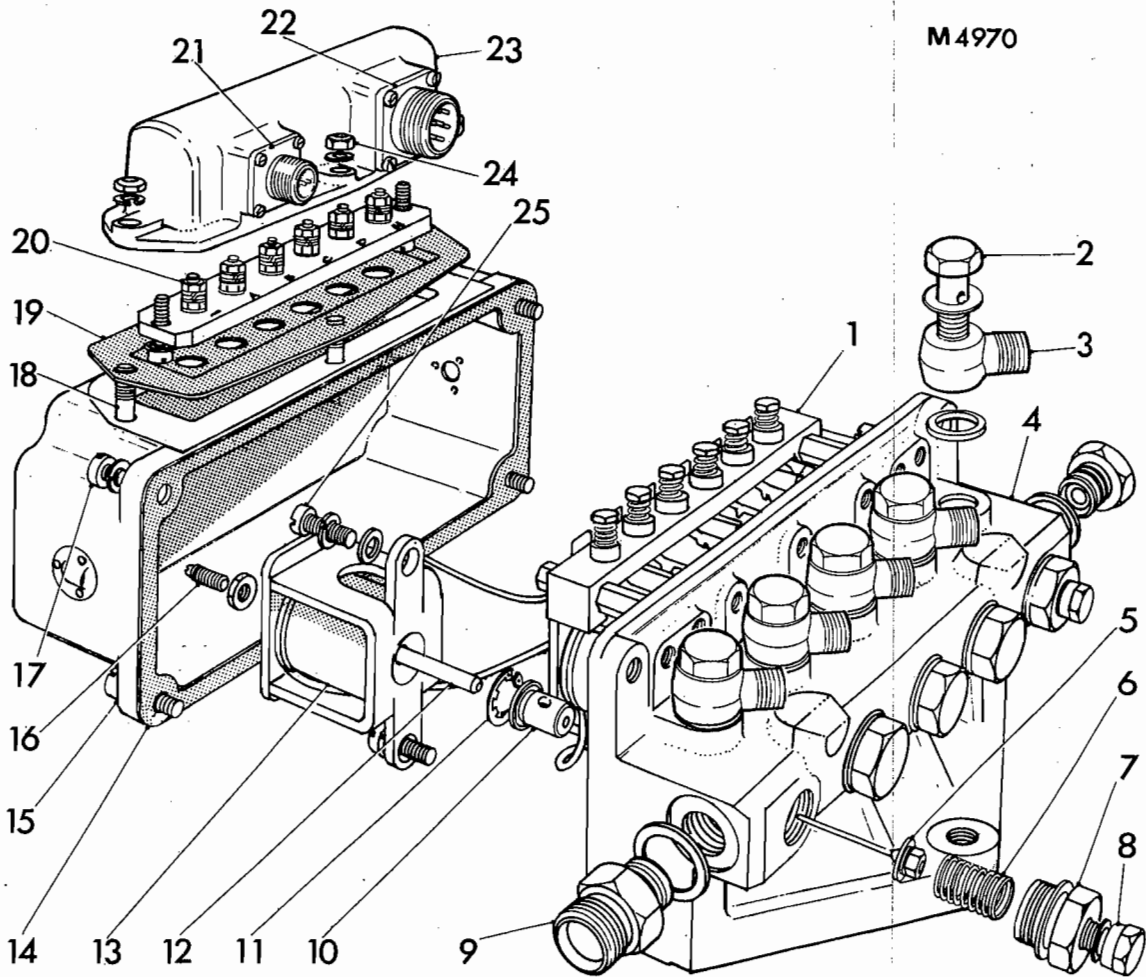
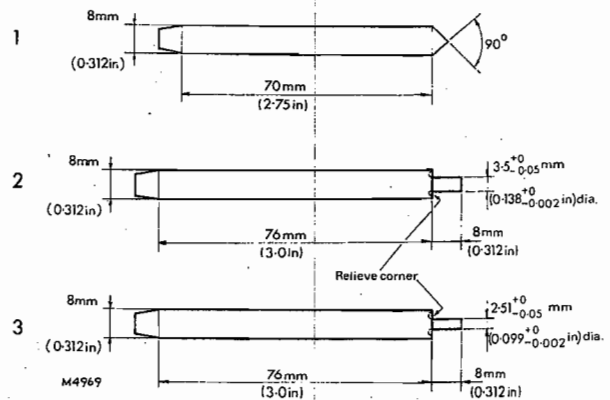

FIG. 7. 5-WAY ELECTRO-PNEUMATIC VALVE
FIG. 8. VALVE SEAT TOOLS
Open the isolation switch. Exhaust the auxiliary air reservoir and remove the pipes from the air inlet (9) Fig. 7 and outlet connections. Note and record the location of each pipe for correct subsequent re-assembly. Unscrew both wiring connector sockets. Remove three securing bolts retaining the unit to the gearbox – withdraw unit.
To Dismantle, Fig. 7
Tools, Fig. 8, for re-forming seats on a valve seat (10) and for removing and inserting a valve seat in a body, may be manufactured locally.
To re-form a valve seat in a valve body position the tool – pointed end of item 1 Fig. 8, in the defective
Pass the special tool, item 2 Fig. 8, through the valve plug hole and push the small diameter end of the tool in the valve seat (10).
Push the small diameter end of the special tool, item 3 Fig. 8 into the hole in the valve seat (10) Fig. 7. Hold the tool upright and ensure that the tool
To Reassemble, Fig. 7